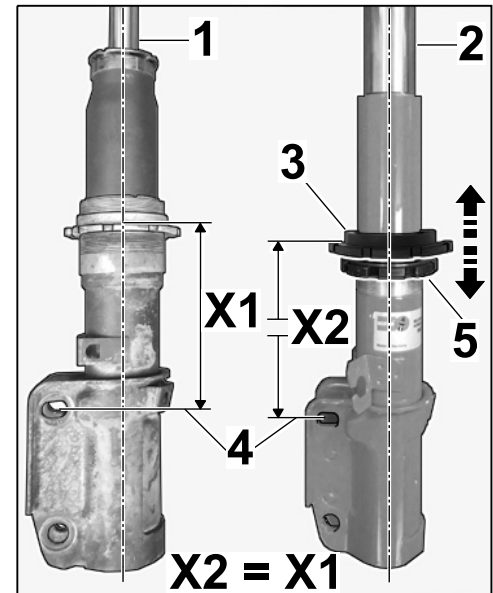

Figure 4
- 2.2 Adjust dimension X2 (top of adjusting nut/mounting point for shock absorber ⇒ *Figure 4 -X2-*) in accordance with dimension X1 (standard spring strut).
- 2.3 Secure lock nut (⇒ *Figure 4 -5-*) to adjusting nut (⇒ *Figure 4 -3-*).